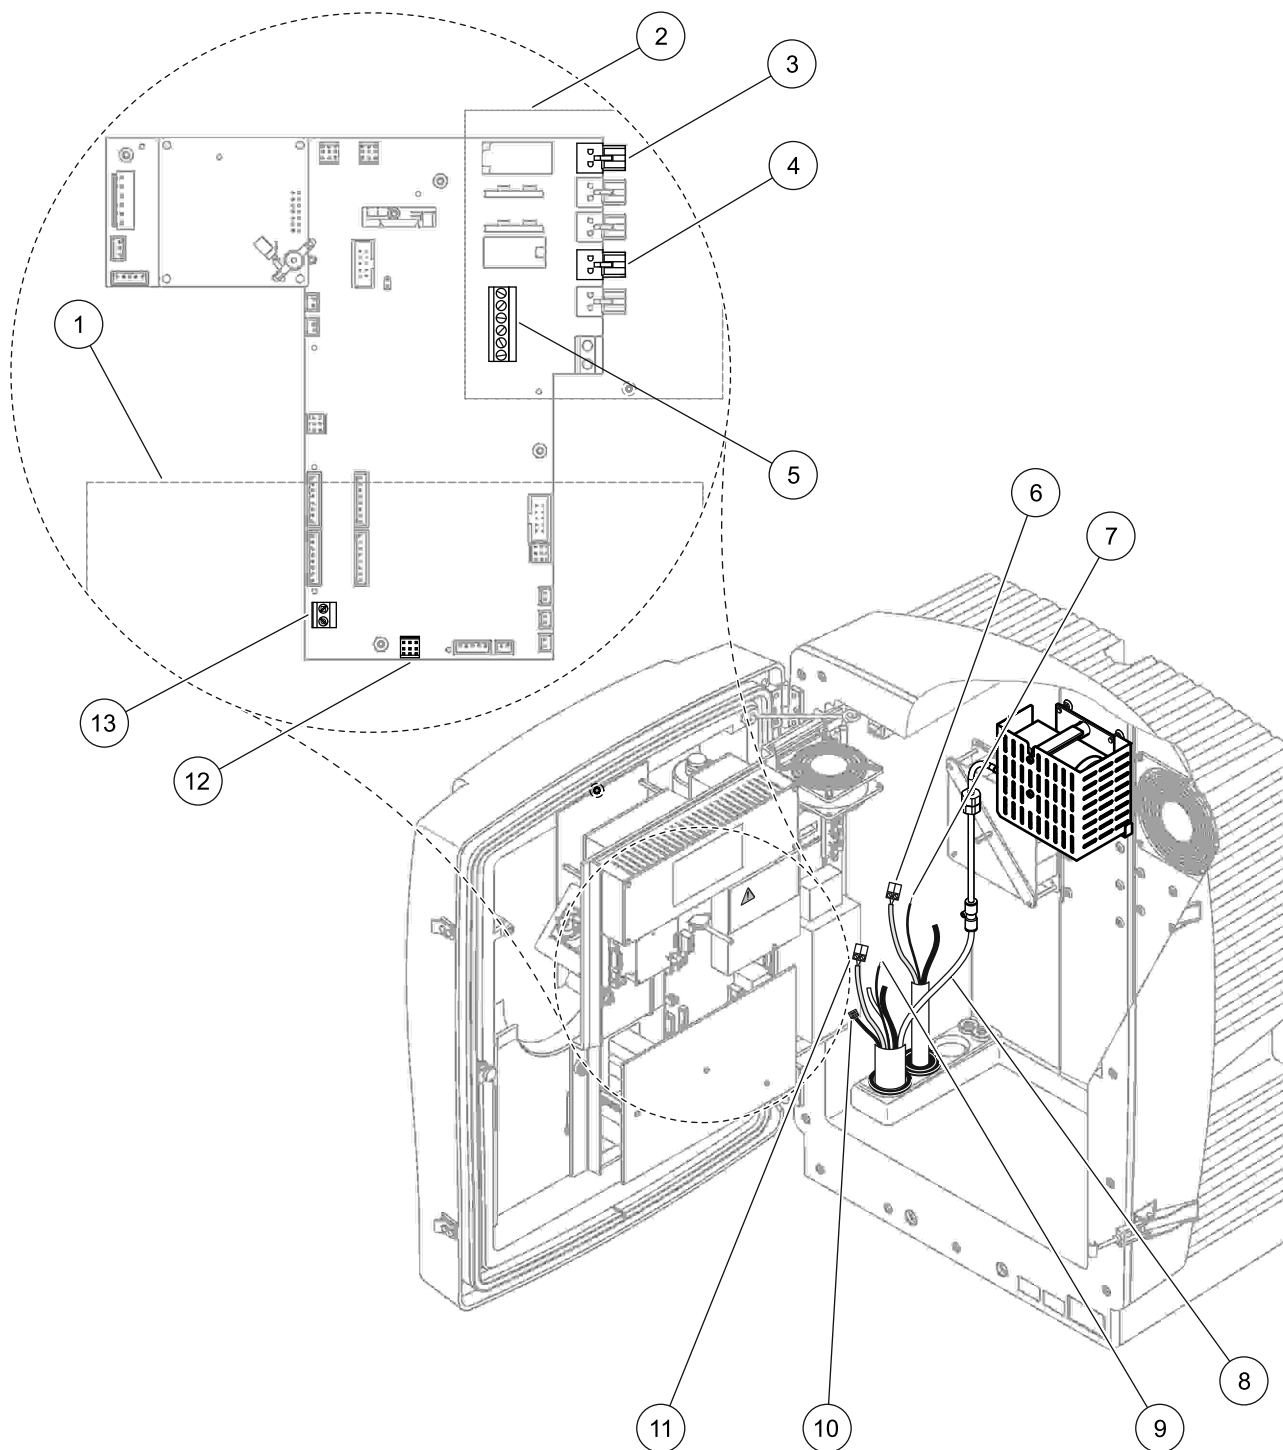

Figure 16 Connect the Filter Probe sc and optional heated drain
4. Connect the earth ground (green/yellow) wire (item 9, Figure 16, page 28) from the Filter Probe sc to the ground terminal (item 5, Figure 16, page 28).
5. Connect the power connector to the appropriate terminal connection (items 4 and 11, Figure 16, page 28).
7. Connect the data connector (item 10, Figure 16, page 28) to the main board (item 12, Figure 16, page 28).
9. Connect the white air tubing (item 8, Figure 16, page 28) from the Filter Probe sc to the air tubing connection on the analyzer (Figure 16, page 28).
Refer to Figure 16 and the following procedure to connect the heated drain.
5. Connect the cables for the heated drain (item 6, Figure 16, page 28) to the terminal block (item 3, Figure 16, page 28).